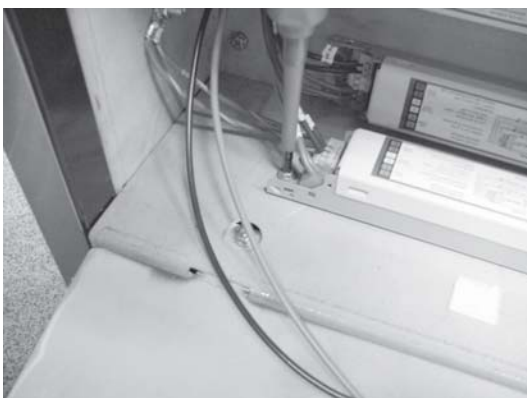

Figure 4
4. Remove screws securing the ends of the faulty ballast and remove ballast. Figure 4.